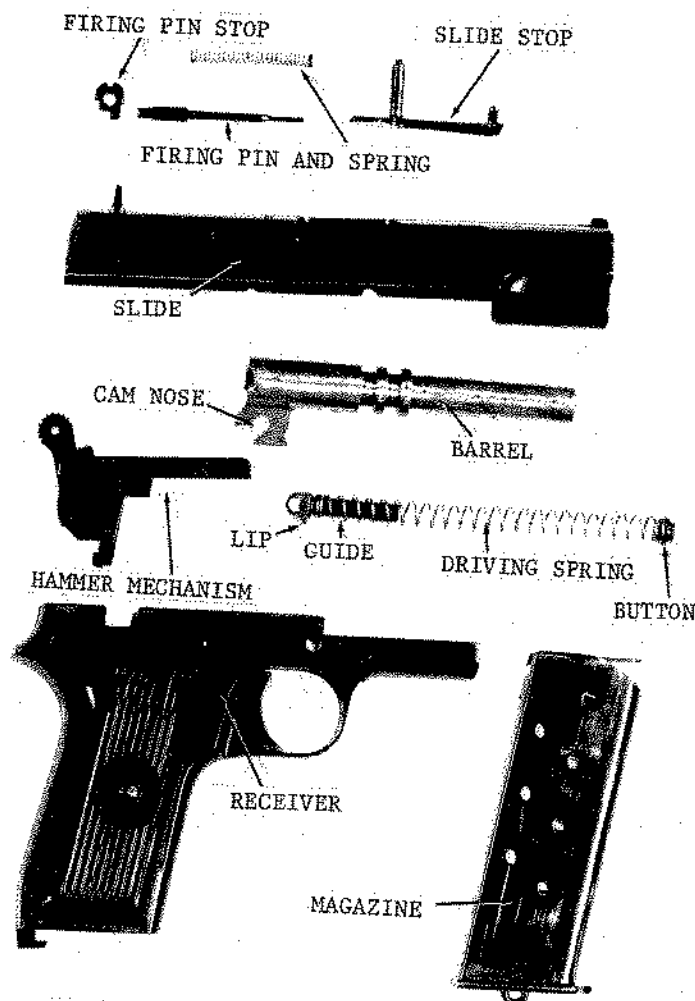

Figure 20. Type 68 disassembled.
b. Draw the slide rearward until the end of the slide stop is aligned with the half-round notch in the slide. Hold the slide in position and press out the slide stop pin (from right to left); this operation requires some practice. Pull the slide stop out of the pistol. Pull the slide forward and off the receiver (fig 20).
barrel back until it drops into locked engagement with the slide. Insert the button (fig 20) on the driving spring into the tunnel on the slide, and engage the guide with the barrel. The lip on the guide must point away from the barrel (fig 20).
c. The barrel is locked to the slide by ribs (machined into the outer surface of the barrel) that mesh with grooves in the slide. A lug on the bottom rear of the barrel rides on a transverse pin in the receiver. As the barrel moves to the rear in recoil, while locked to the slide, a cam nose on the barrel lug (fig 20) contacts the transverse pin and pulls the barrel down. This unlocks the slide from the barrel and, because of its momentum, the slide continues to the rear. As the slide recoils, the driving spring is compressed